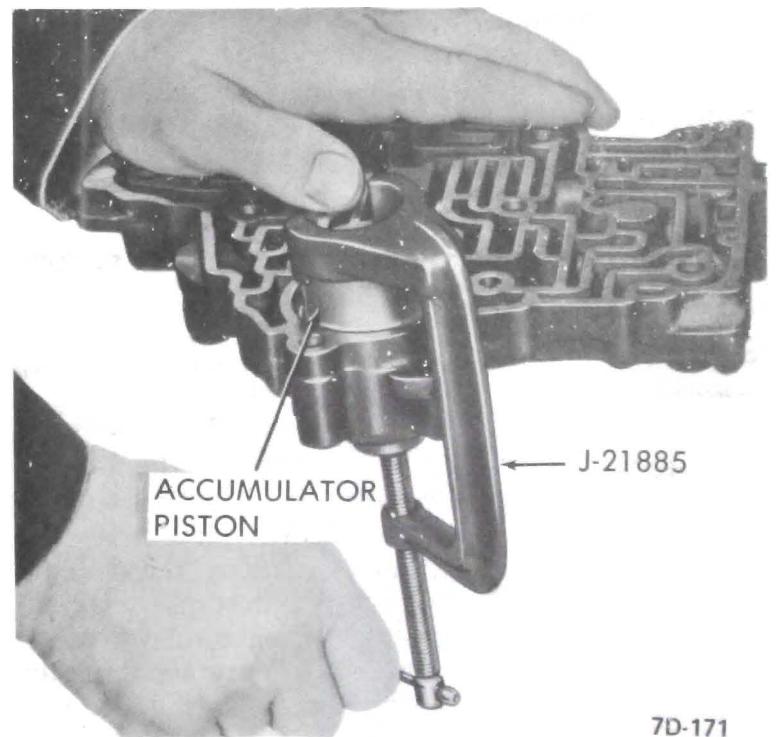

Figure 7D-171
3. Install special Tool J-21885 on accumulator piston and remove retaining "E" ring. See Figure 7D-171.
4. Remove front accumulator piston and spring. See Figure 7D-173.